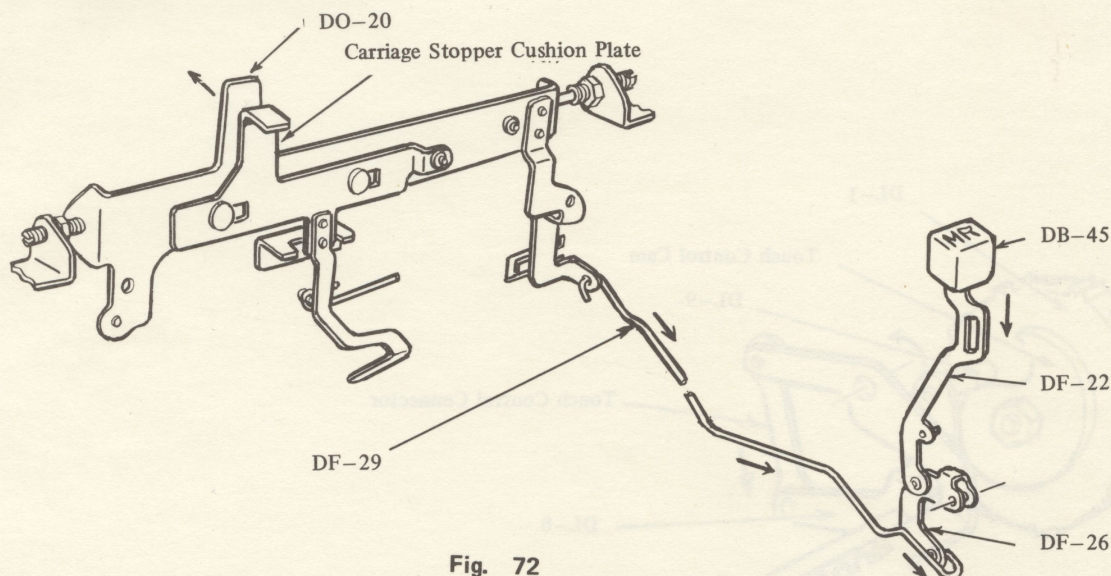

Fig. 72
Furthermore DO-20 (Carriage Stopper) is pulled by DF-29, DO-20 and Carriage Stopper Cushion Plate are fallen down backward and released from both DR-1 and -3 (Margin Stopper right and left). (Fig. 72)
- (3) Make sure smoothly returning motion of DO-20 to the original position when DB-45 is released. (Fig. 72)